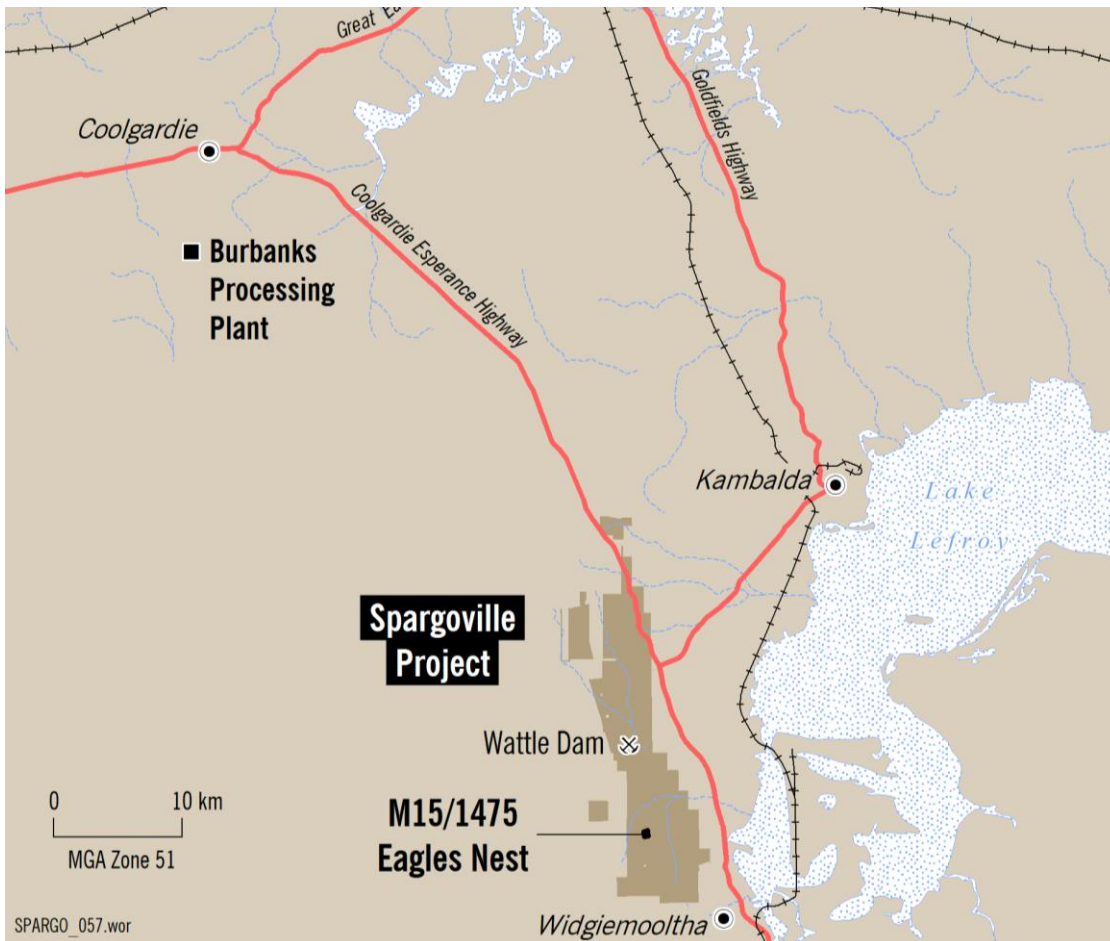

Figure 1: Spargoville and Eagles Nest Location Map
Maximus Resources Limited (ASX: MXR) is pleased to update shareholders following completion of an infill and extensional Reverse Circulation (RC) drilling program at the company's Eagles Nest Project, part of its high grade Spargoville gold project south of Kalgoorlie in Western Australia (*Figure 1*).
The Eagles Nest deposit is situated on the Spargoville shear approximately 7km south of the previously mined high grade Wattle Dam gold mine held by Maximus, and is located 60km from the company's recently acquired Burbanks gold Treatment plant (See figure 1). Burbanks has a capacity of 180,000 tonnes per annum and is currently being refurbished with an anticipated completion time of Q1 2017.